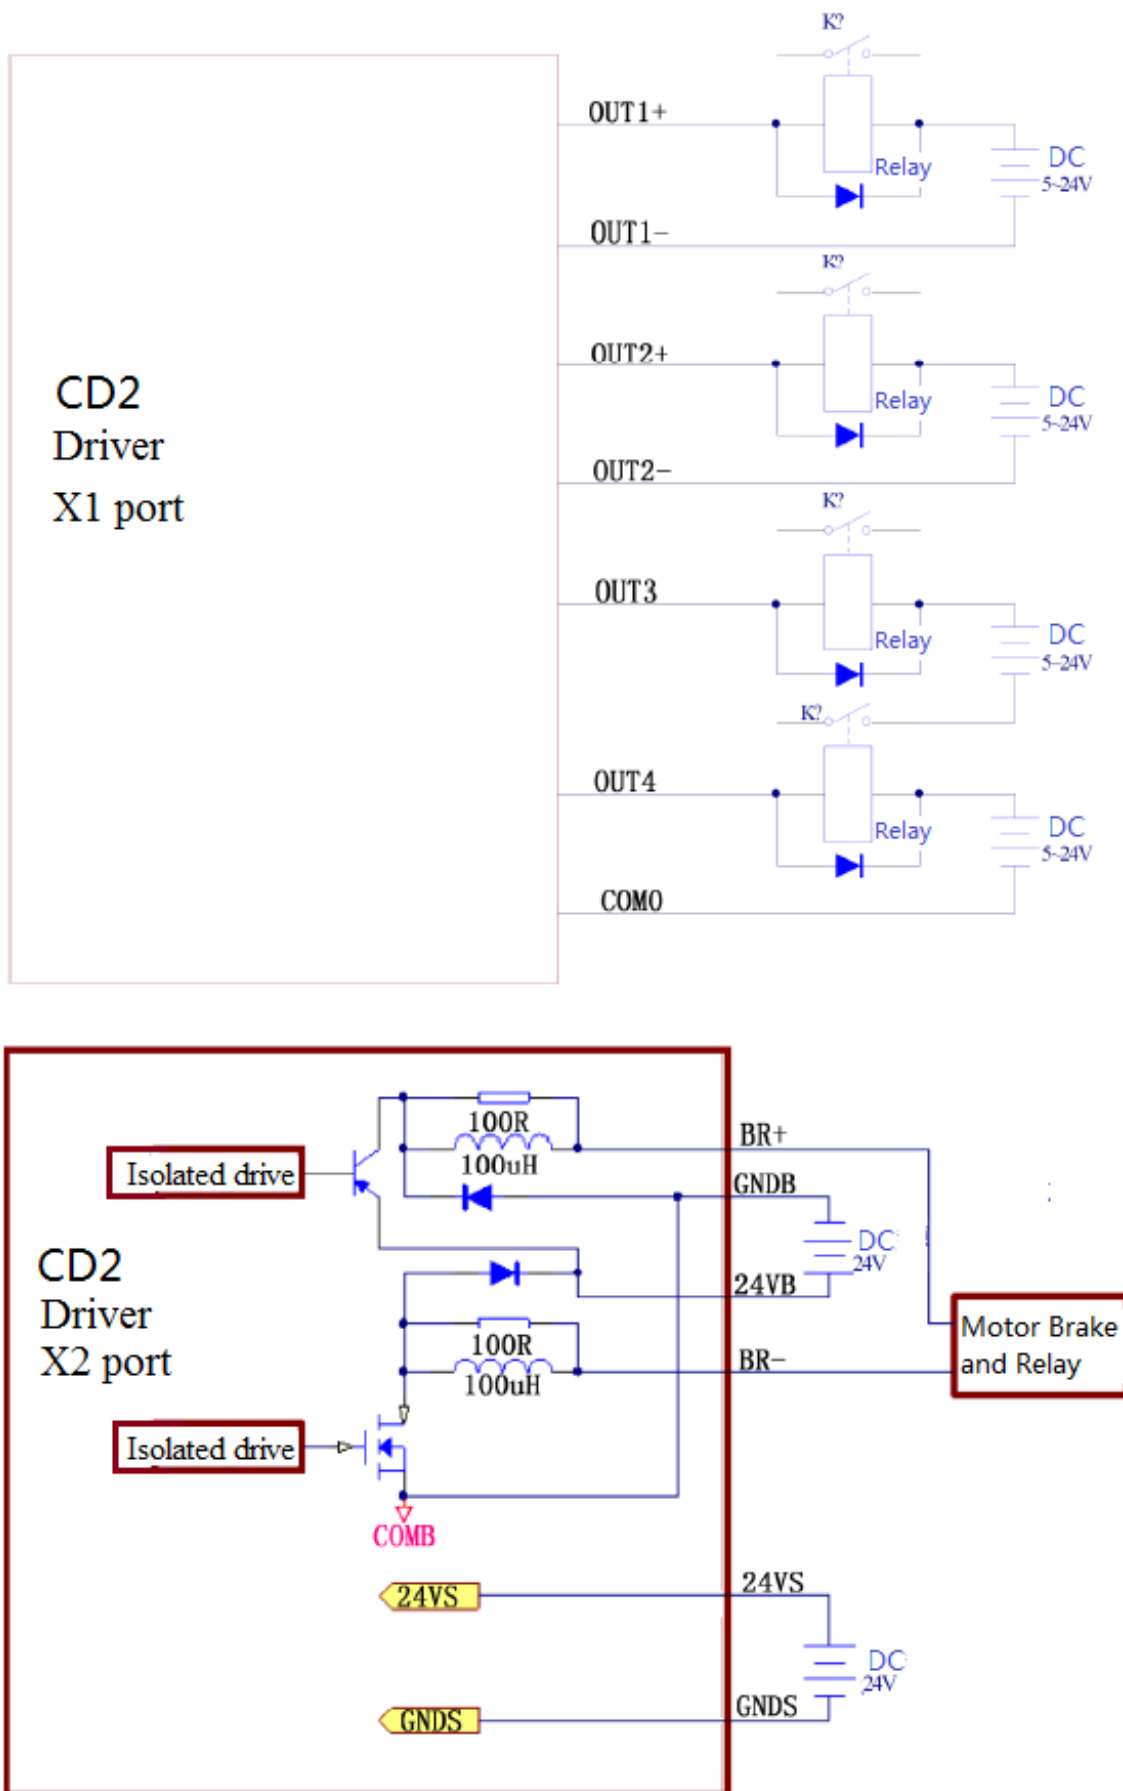

Fig. 6-7 Connect a relay to the digital output port
4. To connect a relay to the digital output port, do remember to connect a diode in inverse parallel, as shown in Fig. 6-7.